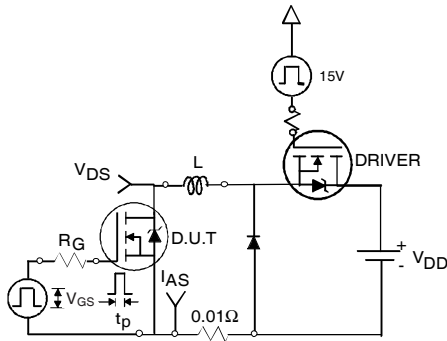

Fig 12a. Unclamped Inductive Test Circuit
- ② Limited by T_{Jmax} , starting $T_J = 25^\circ\text{C}$, $L=0.095mH$, $R_G = 25\Omega$, $I_{AS} = 75A$, $V_{GS} = 10V$. Part not recommended for use above this value.
- ③ $I_{SD} \leq 75A$, $di/dt \leq 340A/\mu s$, $V_{DD} \leq V_{(BR)DSS}$, $T_J \leq 175^\circ\text{C}$.
- ④ Pulse width $\leq 1.0ms$; duty cycle $\leq 2\%$.
- ⑤ $C_{oss\ eff.}$ is a fixed capacitance that gives the same charging time as C_{oss} while V_{DS} is rising from 0 to 80% V_{DSS} .
- ⑥ Limited by T_{Jmax} , see Fig.12a, 12b, 15, 16 for typical repetitive avalanche performance.
- ⑦ This value determined from sample failure population. 100% tested to this value in production.
- ⑧ This is applied to D²Pak, when mounted on 1" square PCB (FR-4 or G-10 Material). For recommended footprint and soldering techniques refer to application note #AN-994.
- ⑨ R_θ is measured at T_J of approximately 90°C .
- ⑩ TO-220 device will have an R_{th} of 0.45°C/W .
3. Equation below based on circuit and waveforms shown in Figures 12a, 12b.